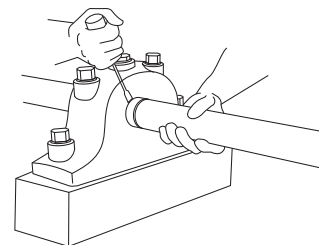

Figure 2
7. To keep adapter from turning on shaft tap on large end (opposite adapter nut). If large end of adapter is inaccessible, insert point of Flathead screwdriver between housing and adapter nut and twist screwdriver (see Figure 2).